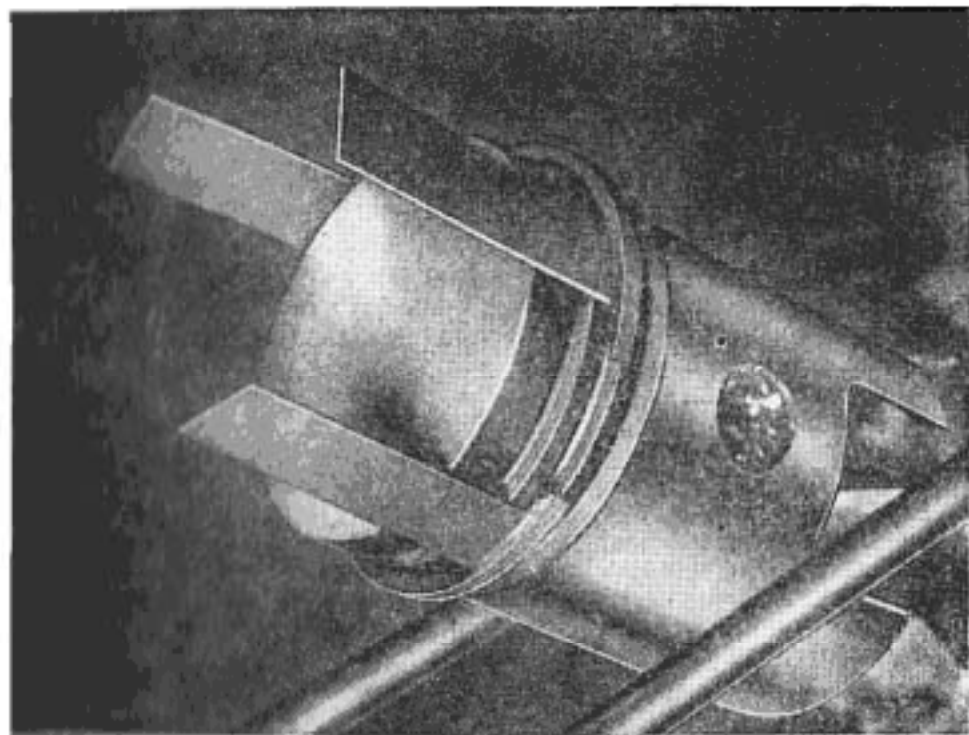

Fig. 25. — Fitting the piston rings.
- b) The best way to remove piston rings is to use three thin steel strips. Insert one strip under the piston ring in the middle and the two others under the piston ring ends (fig. 25) and remove the piston ring.
- A. To fit the rings see fig. 25.